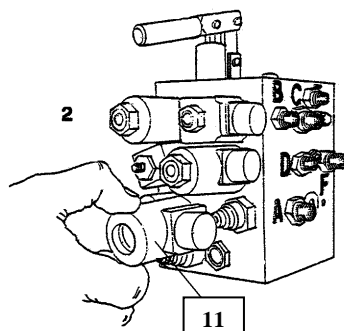

Fig.18
- Remove the magnetic coil (see ref.11 fig.18) from the valve.
- Place the nut (see ref 12 fig.18) back on the valve, but do not tighten too much or the platform will start to descend.